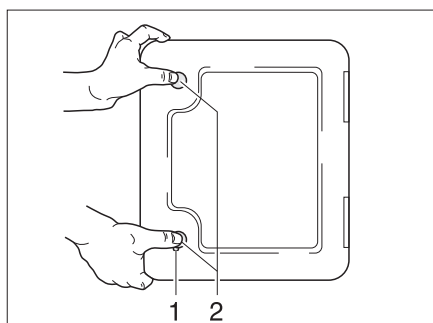

Fig. 33 Flap for toilet cassette
- Insert the key into the locking cylinder of the push-button lock (Bild 33,1) and turn a quarter turn.
- Press both push-button locks (Bild 33,2) simultaneously with your thumb and open the flap for the toilet cassette.
- Insert the key into the locking cylinder (Bild 33,1) and turn a quarter turn.